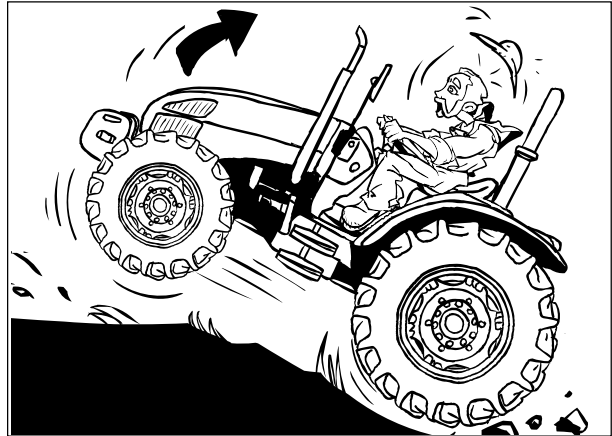

Fig. 2-29
- If the front end of the tractor starts to lift, reduce your speed and, if necessary, disengage the clutch (Fig. 2-29).
- If your tractor is bogged down in mud or frozen to the ground, DO NOT attempt to drive forwards. The tractor can rotate around its rear wheels and overturn (Fig. 2-29). Lift any attached implement and attempt to BACK OUT. If this is not possible, tow it out with another vehicle.